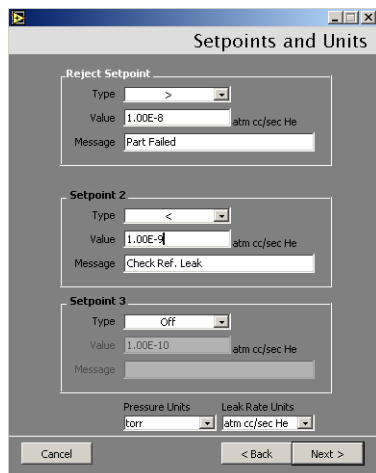

Figure 2-11 Setpoints and Units
3. Enter a *Part Description*, click **Evacuated Part** and then click **Next** and Figure 2-11 appears.